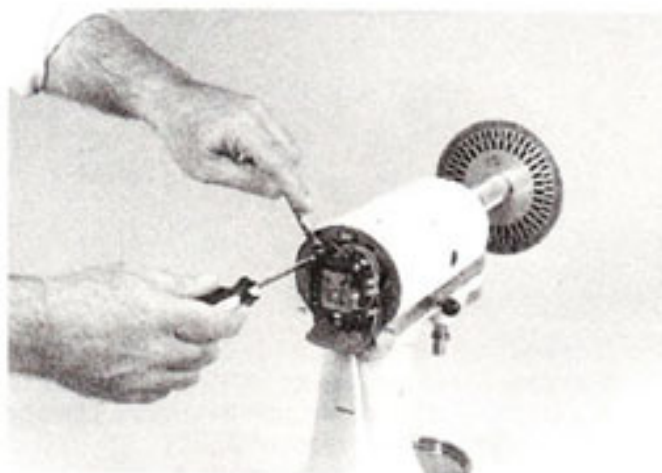

Fig. 78
- D. When proper speed has been set, lock the two lock nuts using $11/32$ " wrench (Fig. 78) and check the speed again. If a small correction must be made, make it without loosening the lock nut. Test speeds as before and when correct, it will not be necessary to disturb the lock nuts.